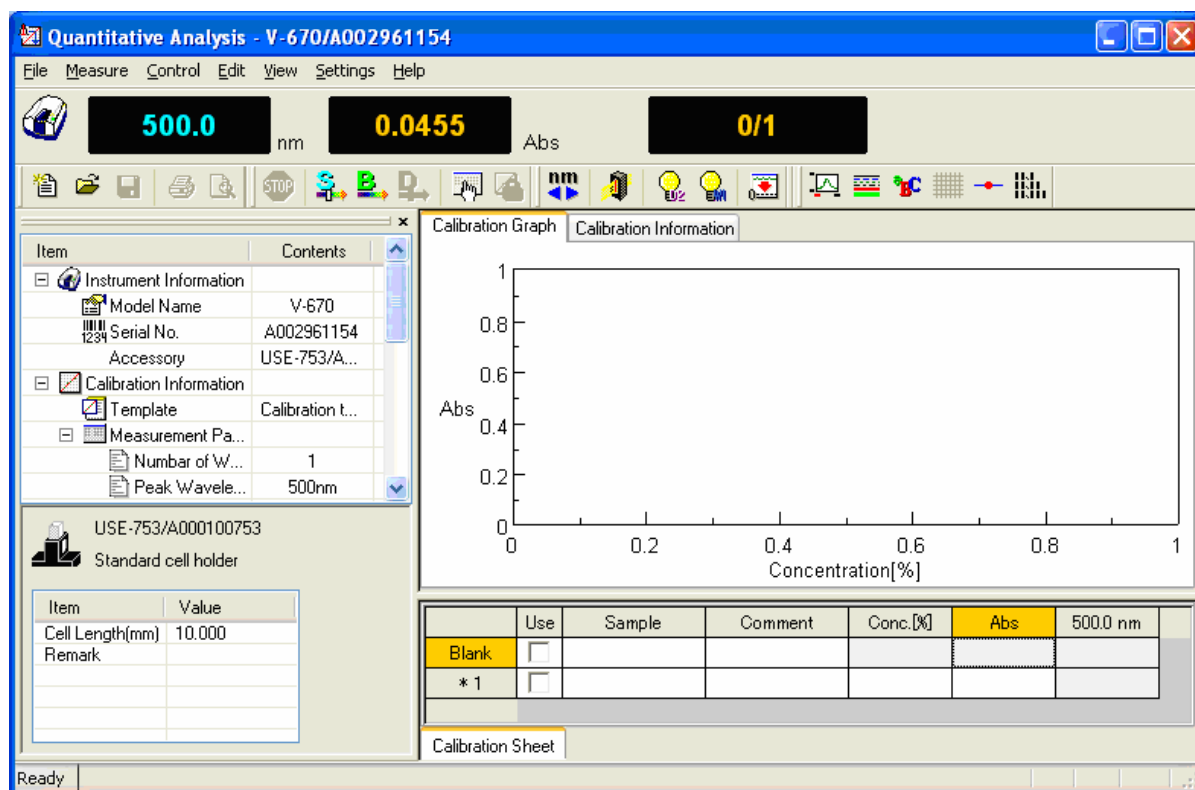

Figure 5.21 [Quantitative Analysis] Window
- (3) Select the target template file and click the <Open> button. The calibration template opens and the Quantitative Analysis window (see Fig. 5.21) is again displayed.